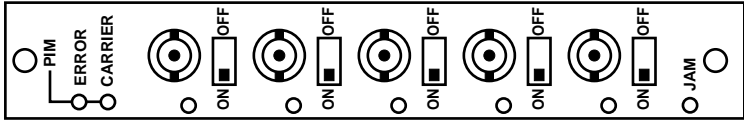

Figure 3-19. BNC/5 Module LEDs.
Each Concentrator Module (HM) features LEDs for troubleshooting and monitoring connection status. Located on the front panel of each HM are the following LEDs (shown in **Figure 3-19**):